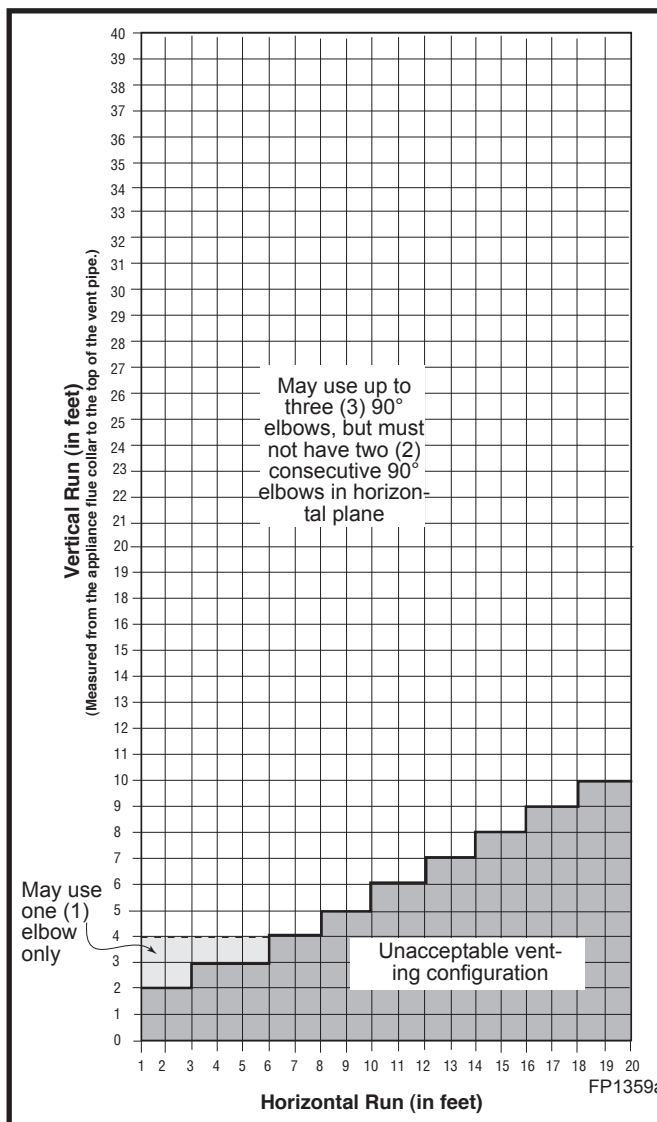

Fig. 14 Horizontal vent termination window.
- Approved vent systems must terminate above and including the heavy line in Figure 14.
- With a rise between 2' - 4', one (1) 90° or two (2) 45° elbows may be used.